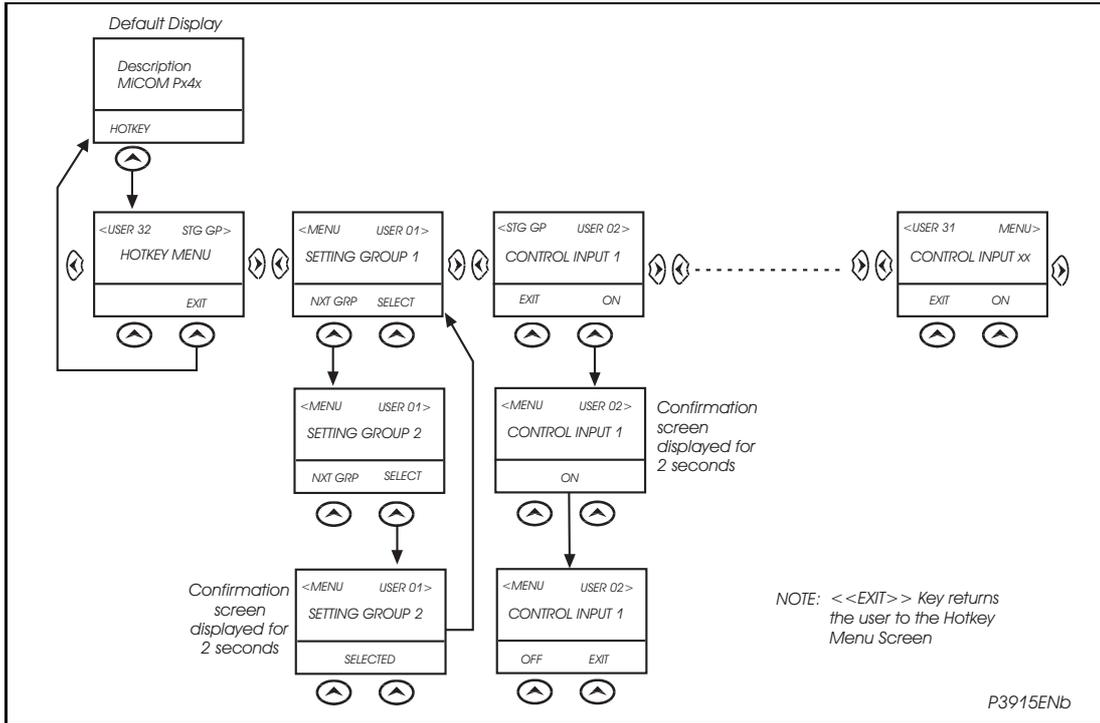

FIGURE 5: HOTKEY MENU NAVIGATION
The menu can be browsed using the four arrow keys, following the structure shown in Figure 5. Thus, starting at the default display the 8 key will display the first column heading. To select the required column heading use the 4 and 6 keys. The setting data contained in the column can then be viewed by using the 2 and 8 keys. It is possible to return to the column header either by holding the [up arrow symbol] key down or by a single press of the clear key 0. It is only possible to move across columns at the column heading level. To return to the default display, press the 8 key or the clear key 0 from any of the column headings. It is not possible to go straight to the default display from within one of the column cells using the auto-repeat facility of the 8 key, as the auto-repeat will stop at the column heading. To move to the default display, the 8 key must be released and pressed again.